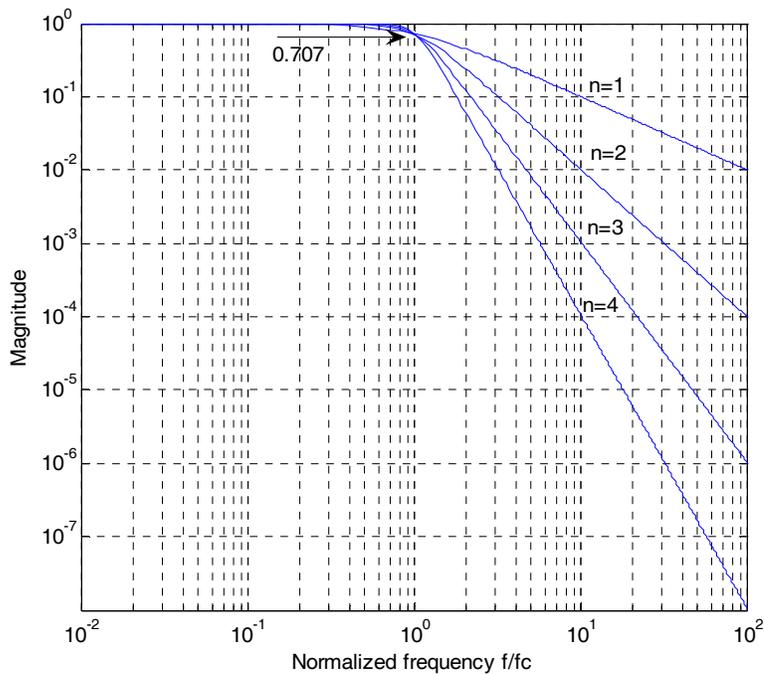

Figure 1: Frequency response of a Butterworth filter of order n.
3. Using the configuration of Figure 1 (page 5) in the datasheet UAF42, find the values of the external resistors  $R_{F1}$ ,  $R_{F2}$ , and  $R_Q$  to realize the required  $\omega_o$  and quality factor Q. Note, there is no need to use the DOS filter design program. Simplify the equations for  $\omega_o = \omega_n$ , Q and  $A_{LP}$ , knowing that  $R_1 = R_2$  and  $C1 = C2$ . In addition, if one makes  $R_G = 50k\Omega = R_1$ , one can use input no. 2 (pin no. 2) and there is no need to add an external  $R_G$ . In addition, by not including  $R_G$ , one effectively makes  $R_Q$  infinitely large. This will further simplify the expressions for  $\omega_o = \omega_n$ , Q and  $A_{LP}$ . One now needs to find only the two external resistors  $R_{F1}$  and  $R_{F2}$ .